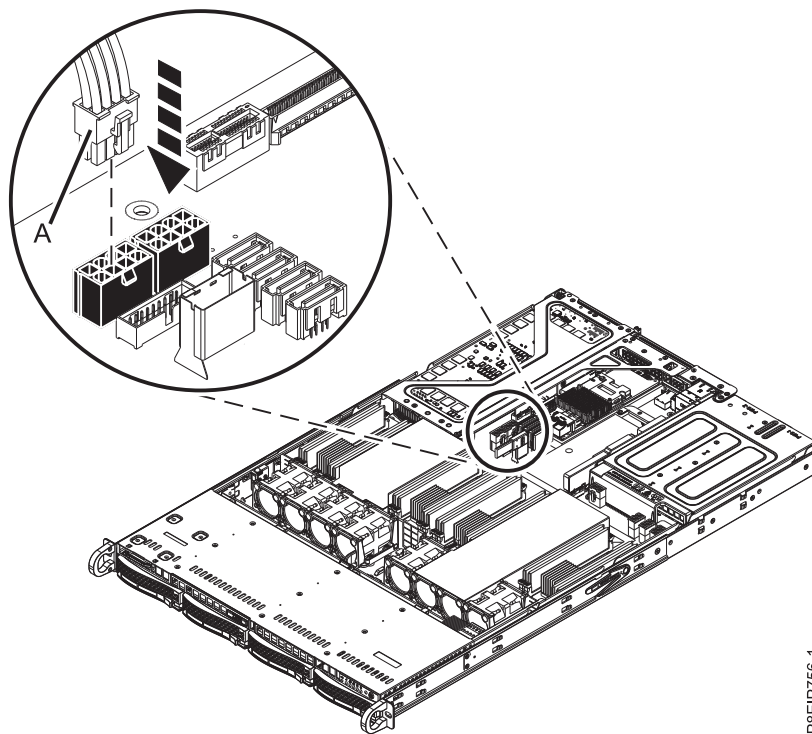

Figure 44. Plugging the GPU power cable
- c. If the riser contains a GPU, replace the power cable **(A)** into the system backplane as shown in Figure 44.